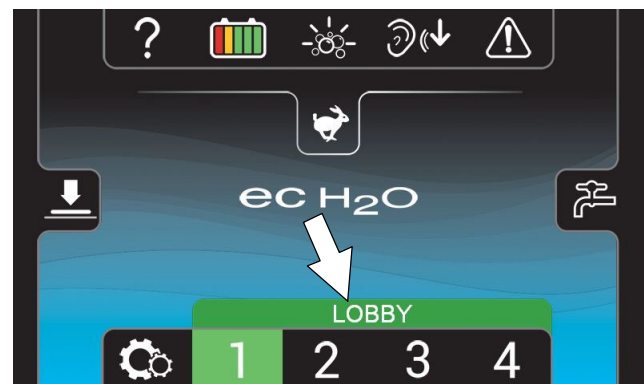

FIG. 57
4. The name will appear above the zone setting number when the zone button is pressed (Figure 57). Repeat process for other zone presets.